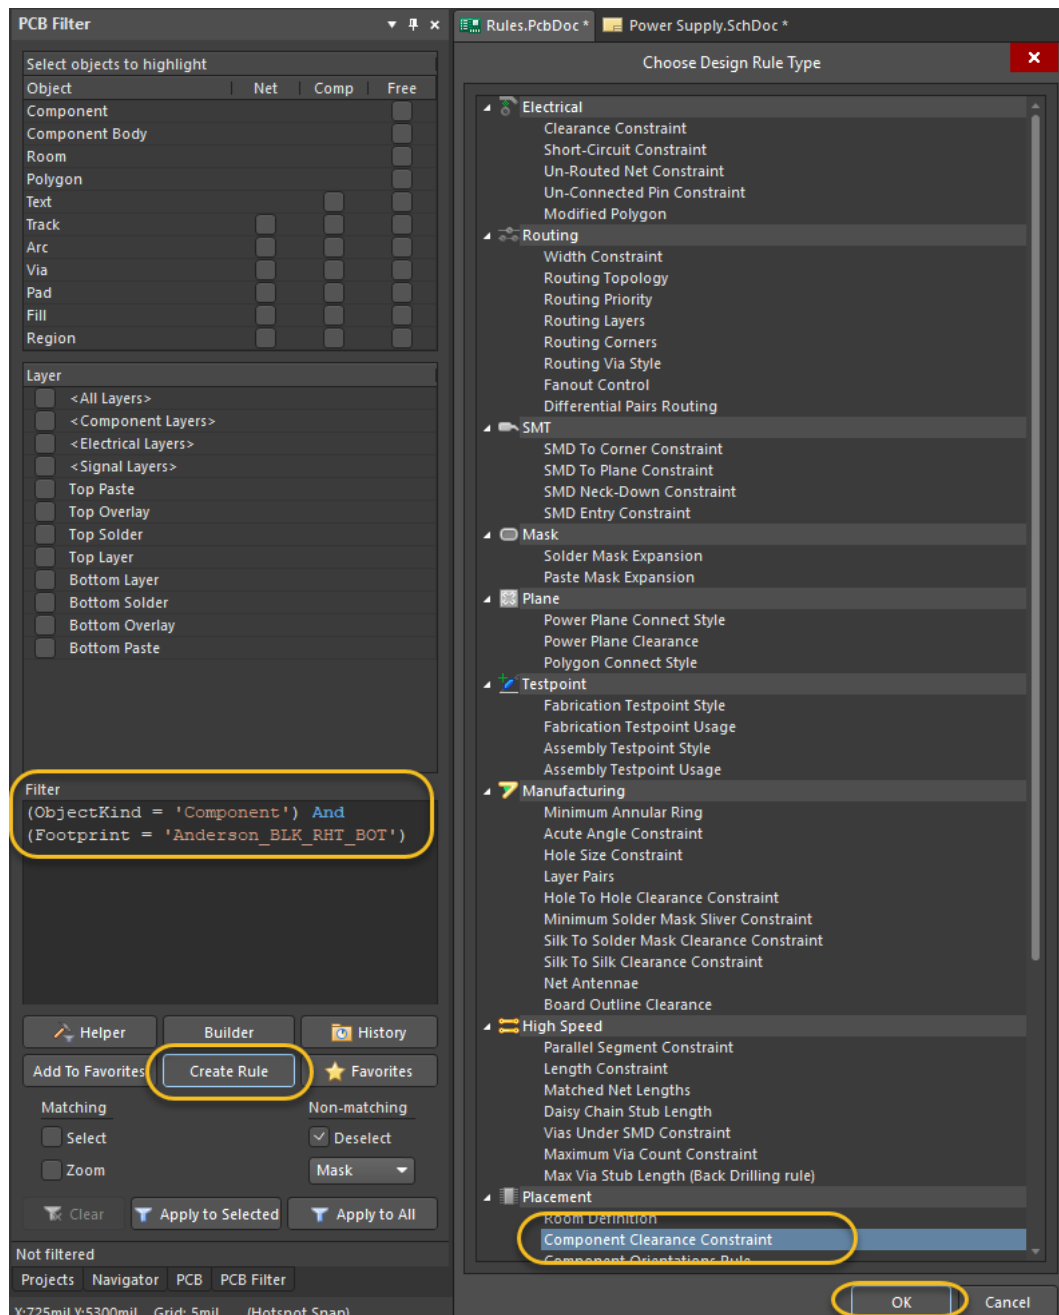

Figure 10. Creating a Clearance Rule from the PCB Filter panel
29. Within the *PCB Filter* panel, click on **Create Rule** near the bottom of the panel as shown in Figure 10.